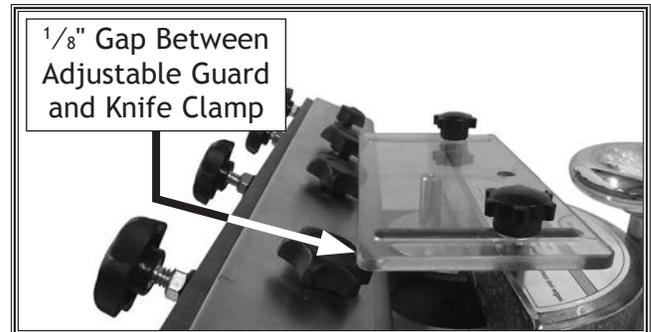

Figure 4. Adjustable guard adjusted to approximately 1/8" from knife clamp.
6. Loosen star knobs, position adjustable guard approximately 1/8" away from knife clamp or stationary clamp, then tighten star knobs to secure setting (see **Figure 4**).